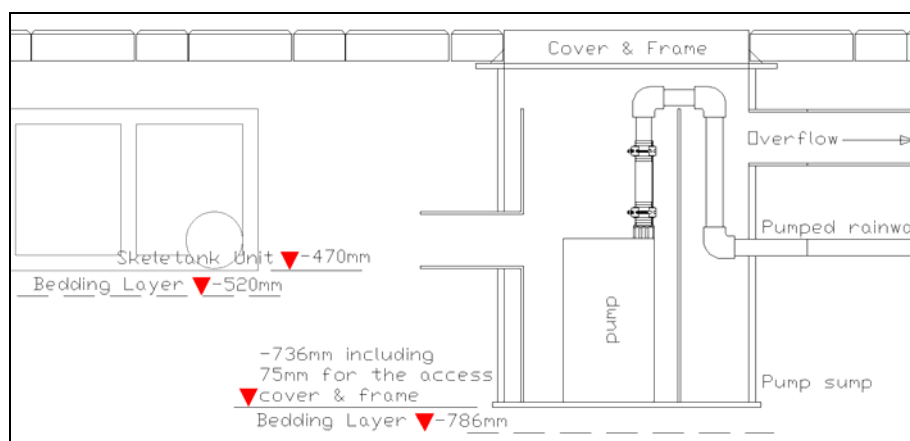

Figure 2
- Step 2** After determining the location of the pump sump you can start digging. Dig down to the required level, the pump sump is 662mm deep and a Skeletank® unit is 315mm deep. Make allowance for the pump sump access cover and frame and for bedding layers below the pump sump and Skeletank® units. Depths of excavation will be project specific but figure 2 gives some typical depths for assistance.